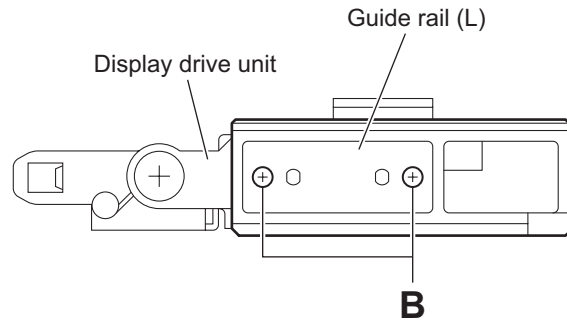

Fig.2
3.2.2 Removing the drive gears and forth gear (See Figs.2 to 4)
(1) From the both sides of the display drive unit, remove the four screws **B** attaching the guide rails (L)/(R). (See Figs.2 and 3.)